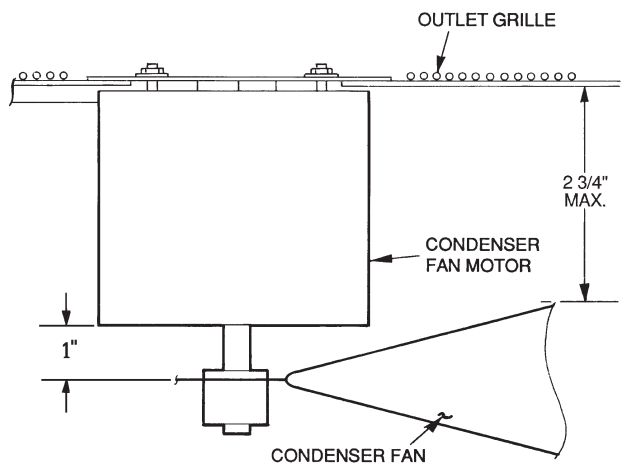

Fig. 11 - Condenser Fan Adjustment
See Fig. 11.
- Adjust fan height as shown in Fig. 11.